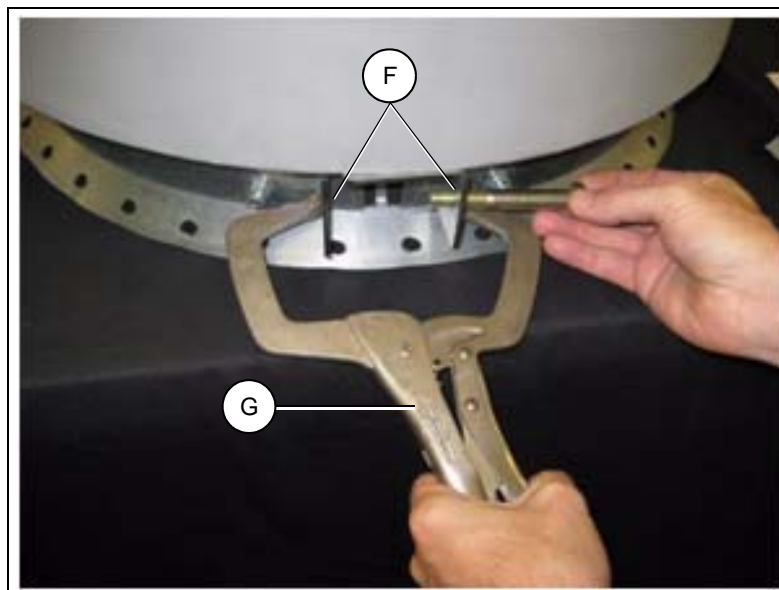
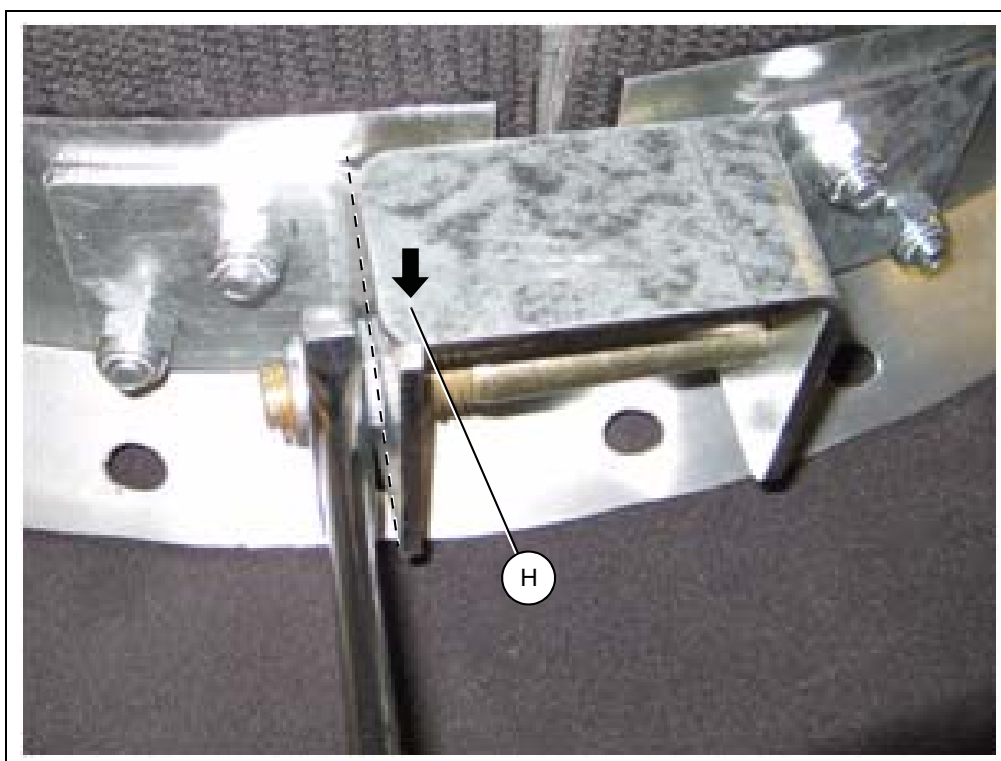

Figure 10C Mount Lid to Peak Ring
Figure 10E *Tighten Bolts Until Flush with Bracket*
2. Place the lid assembly over the existing peak ring collar and rotate lid assembly such that the lever arm and spring hinge line up with the roof eave bracket, See Figure 10A on Page 44. Use a clamp to pull the mounting brackets together. Slide the 3/8" carriage bolt supplied through the mounting bracket and loosely fasten with nut, See Figure 10C. Remove clamp and tighten the bolt with 9/16" ratchet, ensuring that the vertical flange tightens past the left edge of the top, horizontal flange, See Figure 10E on Page 46.